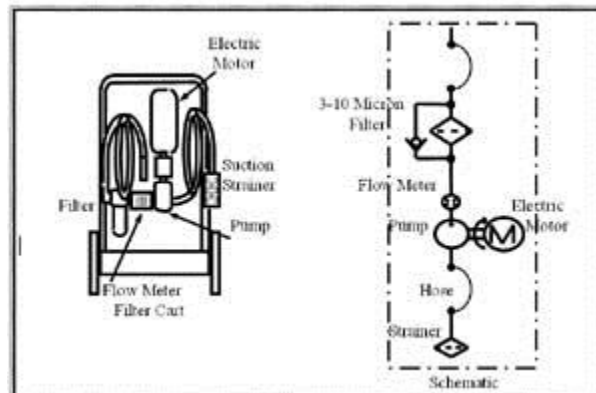
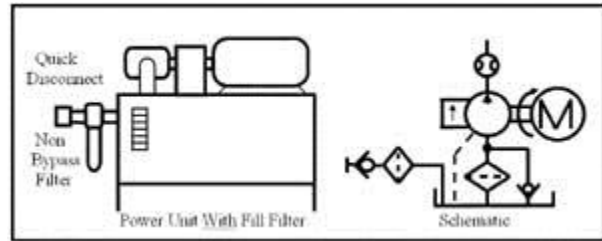

Fig. 2-1. Filter cart (used to transfer hydraulic fluids) and its circuit schematic diagram
Fig. 2-2 Hydraulic power unit and circuit diagram of its filter arrangement
*Anytime a system needs new fluid, it is best to use a transfer unit, **Figure 2-1**, with a 10-micron or finer filter in the loop. Another way of filtering new or refill fluid is with a filter permanently attached to the reservoir, **Figure 2-2**. In this arrangement, the breather or other possible fill points should be made inaccessible.*
The filter cart shown in **Figure 2-1** can also be used to filter any hydraulic unit in the plant. Instead of this filter unit sitting idle except when filling systems, set it up at a machine's power unit for a timed run. Place the suction hose in one end of the reservoir and the return hose in the opposite end. This adds a continual filtration loop to any machine even when the machine's main pump is shut off. Run the cart until the fluid is clean and then move it to another power unit. Repeating this process on a regular schedule can assist the hydraulic units' filters and add extra life to the fluid and the hydraulic components. This process may also show a pattern on machines that have a contamination problem.